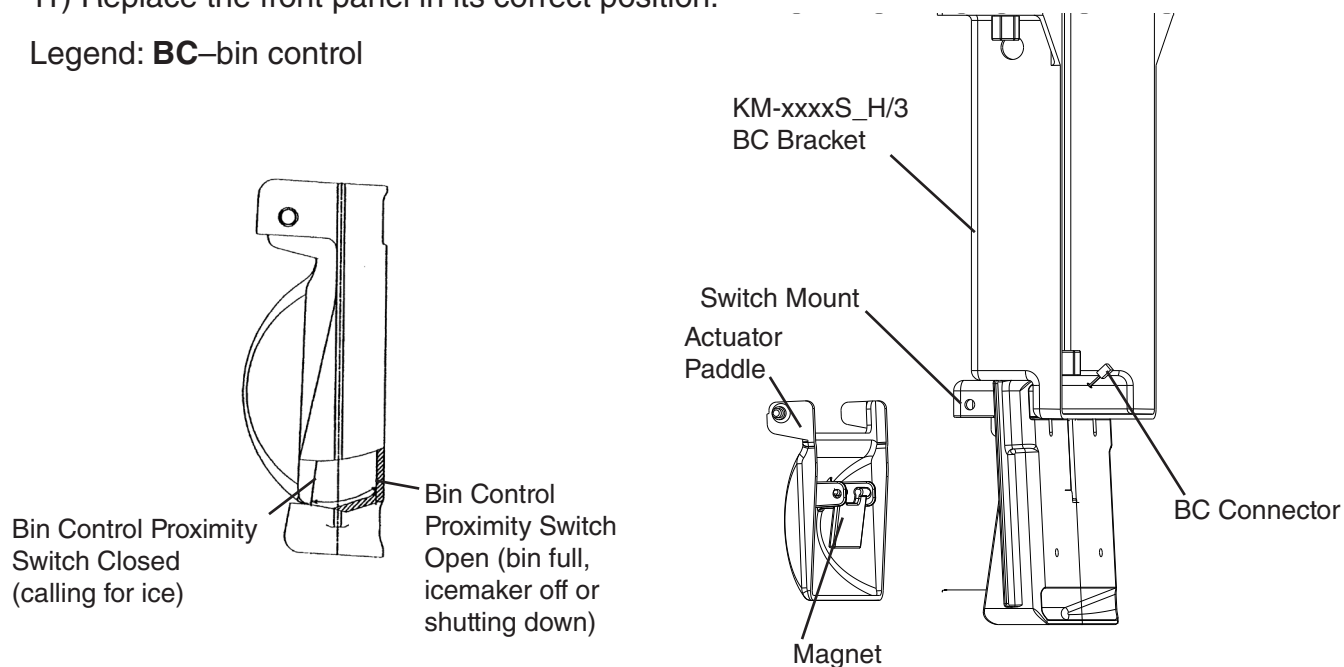

Fig. 4
- 5) Remove the actuator paddle from the switch mount. See Fig. 4.